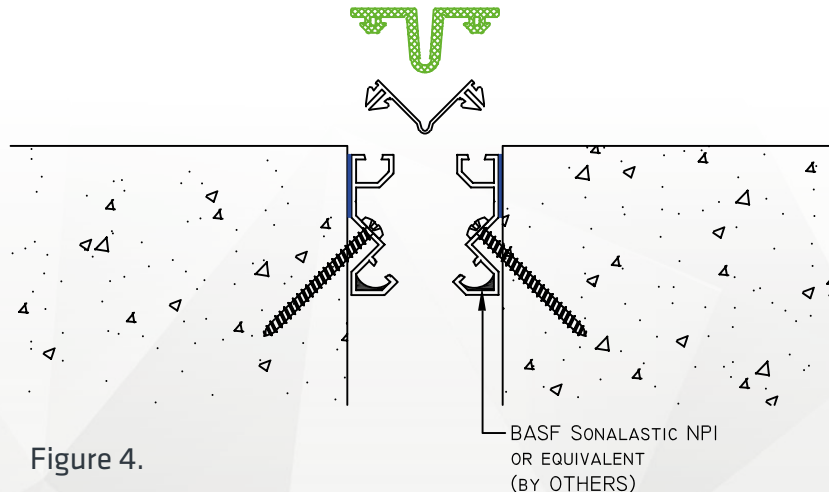

Figure 4.
14. Fill the secondary seal receiver slot of the installed base members with silicone sealant or BASF Sonalastic NP1 (by others) as illustrated in Figure 4.